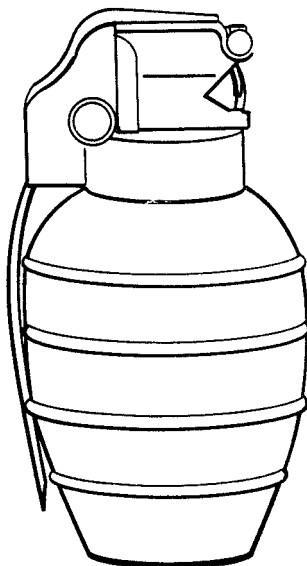

Figure F-21. Spl HGr 84 hand grenade.
- Type: Defensive. (Figure F-21)